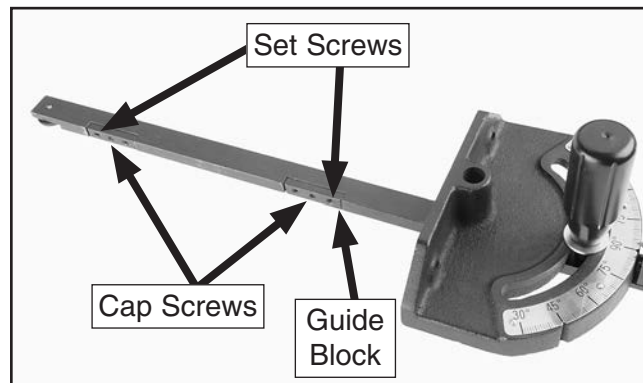

Figure 124. Screws for adjusting miter bar in miter slot.
1. Loosen the cap screw on each guide block (**Figure 124**), adjust the set screws as needed, then tighten the cap screw.